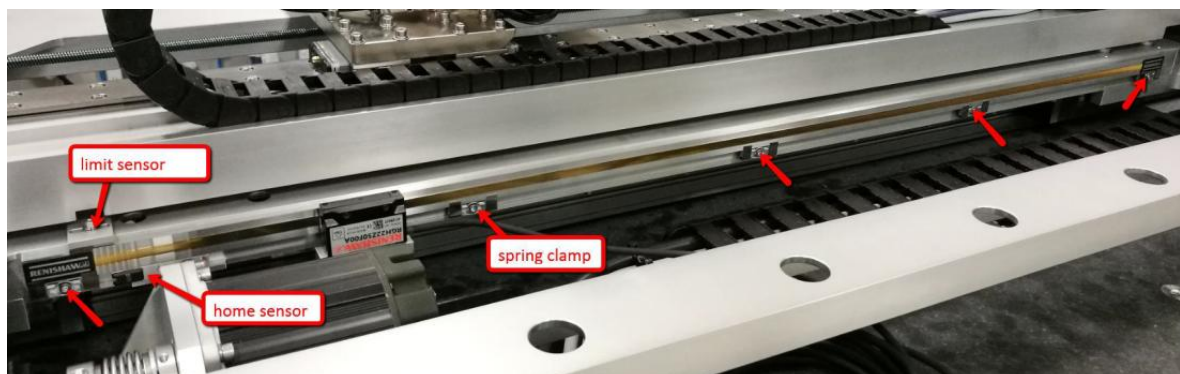

Figure 8 Glass scale replacement
3. Assemble limit sensor and home sensor by refer to origin location (By refer to Step 3). Tighten all screws which secure spring clamp as shown in Figure 8.